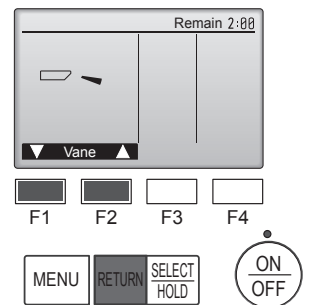

Fig. 7-4
2. Press the [SELECT/HOLD] button to display the Vane operation screen, and then press the [F1] and [F2] buttons to check the auto vane. (Fig. 7-4)